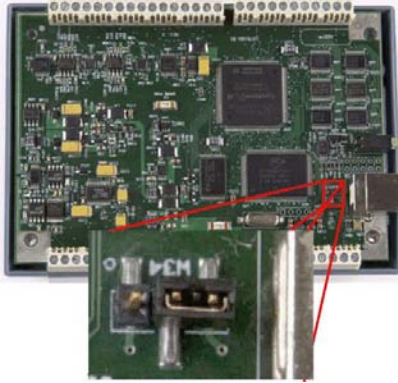
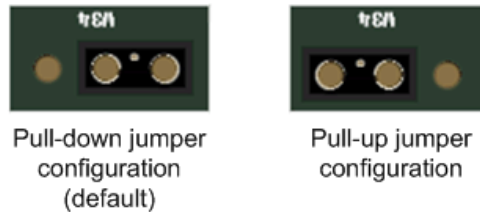

Figure 6. W34 jumper location (default pull-down setting shown)
Figure 7. W34 jumper – pull-down and pull-up configurations
5. Configure jumper **W34** for either pull-up or pull-down. The jumper is configured by default for pull-down (see Figure 6 and Figure 7).